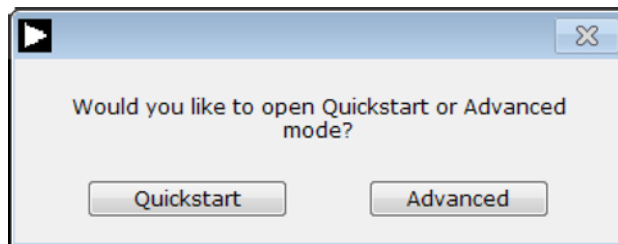

Figure 15. **AD411x Eval+** Startup Mode Selection
3. The dialog box shown in in Figure 15 appears as a pop-up over Figure 16. Quick start mode provides a simplified version of the software that can be used as a starting point for evaluating the **AD4114**. This mode provides a graphical user interface (GUI) for setting up inputs, as shown in Figure 16, and allows the user to configure the device further by using the blue configuration + buttons (Label 7 in Figure 16).